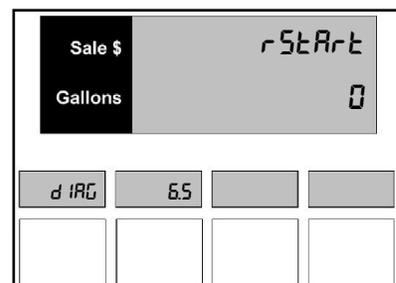

Figure D.6.5 – Software Restarts Counter
- The main display shown in *Figure D.6.5* appears. The PPV display shows the dispenser is in Diagnostics Level 6.5.